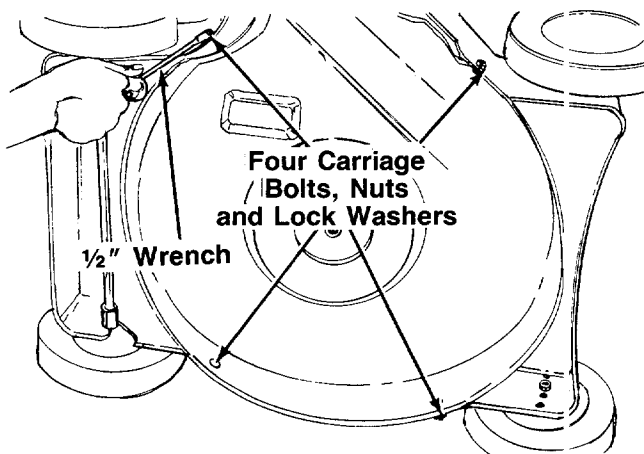

FIGURE 17.
3. Remove the four carriage bolts, nuts and lock washers holding the lower deck to the upper deck. A 1/2" wrench is required. See figure 17.